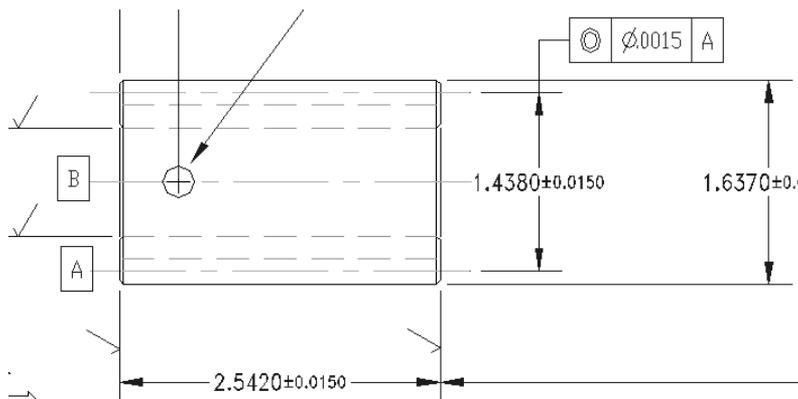

Figure 15-28: Symmetrical tolerances.
- ♦ **Symmetrical** tolerances have the same upper and lower amounts and are shown with a plus/minus sign, as shown in Figure 15-28. The Upper Value text box is active so that you can type in the tolerance amount.